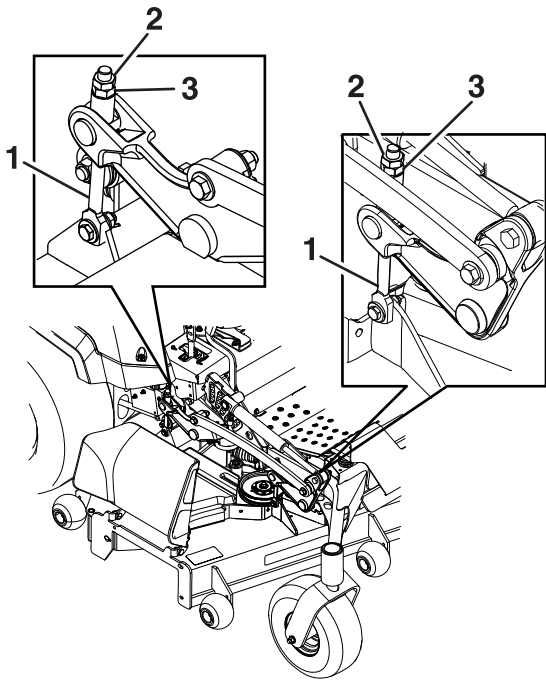

Figure 82
- Fine-tune the adjustment nut on the front deck lift assembly by turning it (Figure 82).